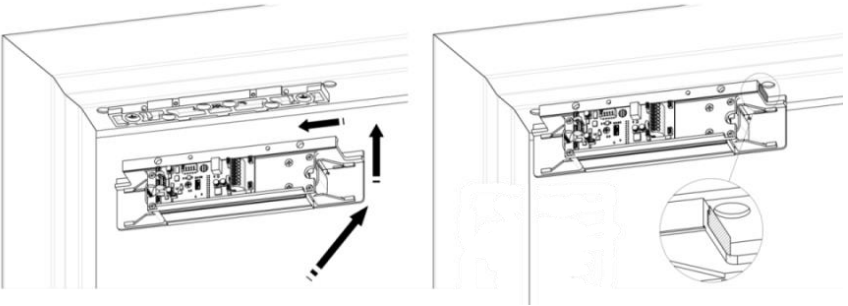

Figure 26. Performing Final Installation
1. INSERT the top of the Magnalock chassis at the end of the mounting bracket, and SLIDE the lock chassis to the center of the bracket (see Figure 26, "Performing Final Installation").